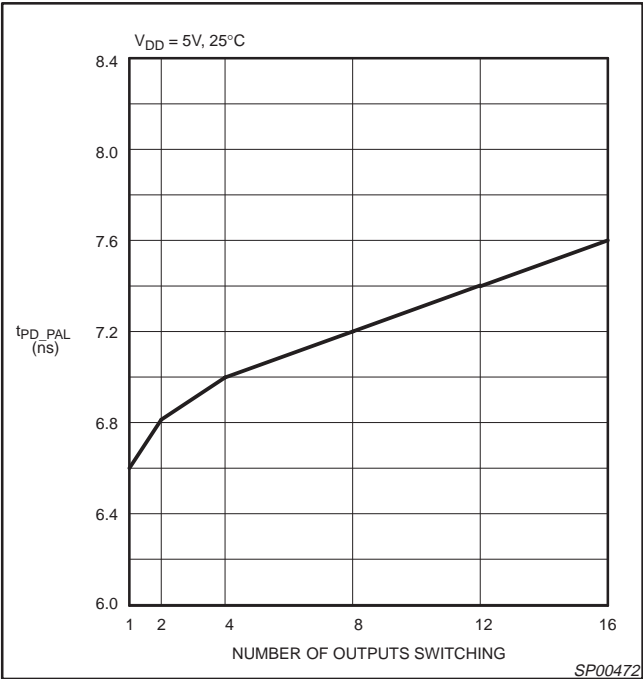

Figure 6. t_{PD_PAL} vs. Outputs Switching
1. Specifications measured with one output switching. See Figure 6 and Table 8 for derating.